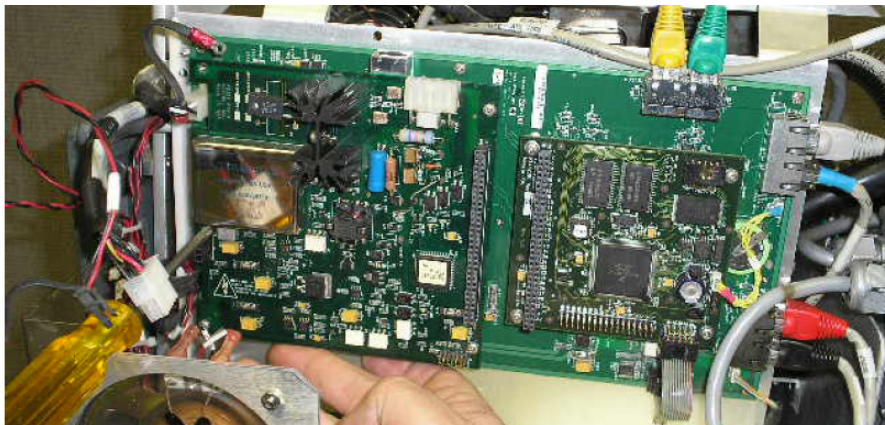

Figure 1-11 Electronics Assembly Extraction
- a. Grasping the assembly either from the bottom (Figure 1-11) or by the two metal tabs at the top and wiggling the assembly upwards by about 2 1/2" (as the cable harness allows).